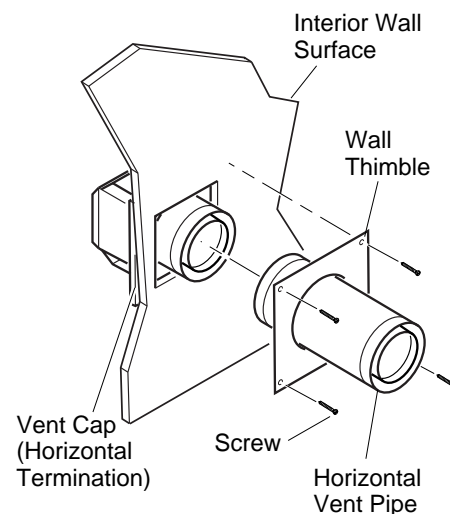

Figure 15 - Connecting Vent Cap with Horizontal Vent Pipe
- Slide the wall thimble over the vent pipe before connecting the horizontal run to the vent cap (see Figure 15).
- Slide the wall thimble against the interior wall surface and attach with screws provided (see Figure 15).